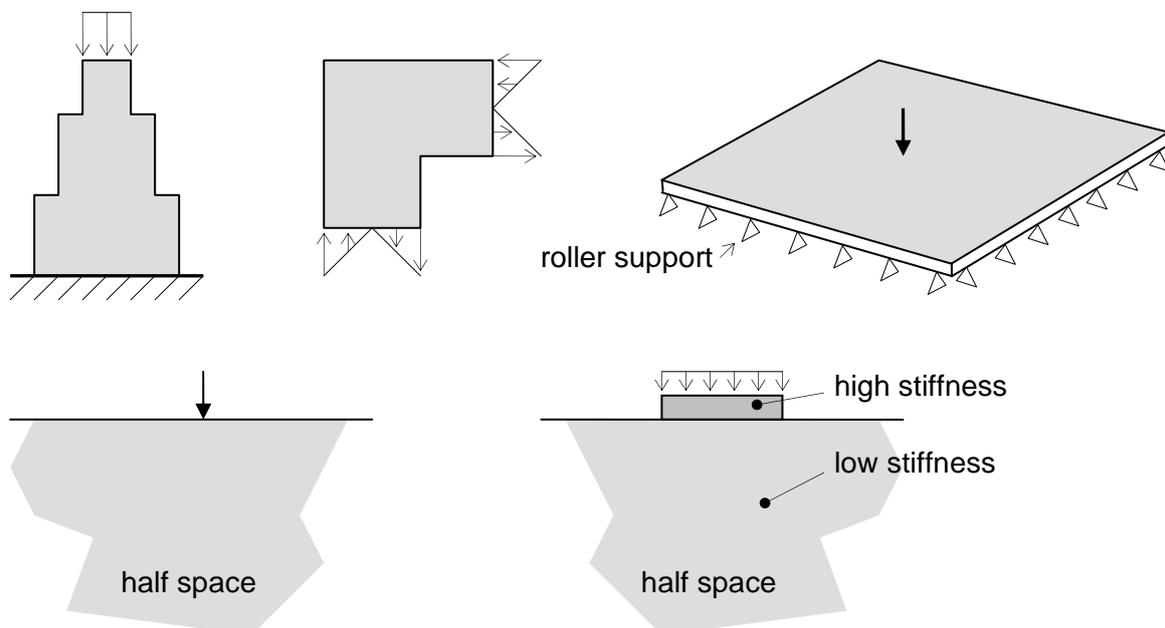

Figure 1. 5 Situations that can be analysed with a linear elastic model
- a Show in each situation of Figure 1 in which points we will find infinitely large stresses (or infinitely small stresses).